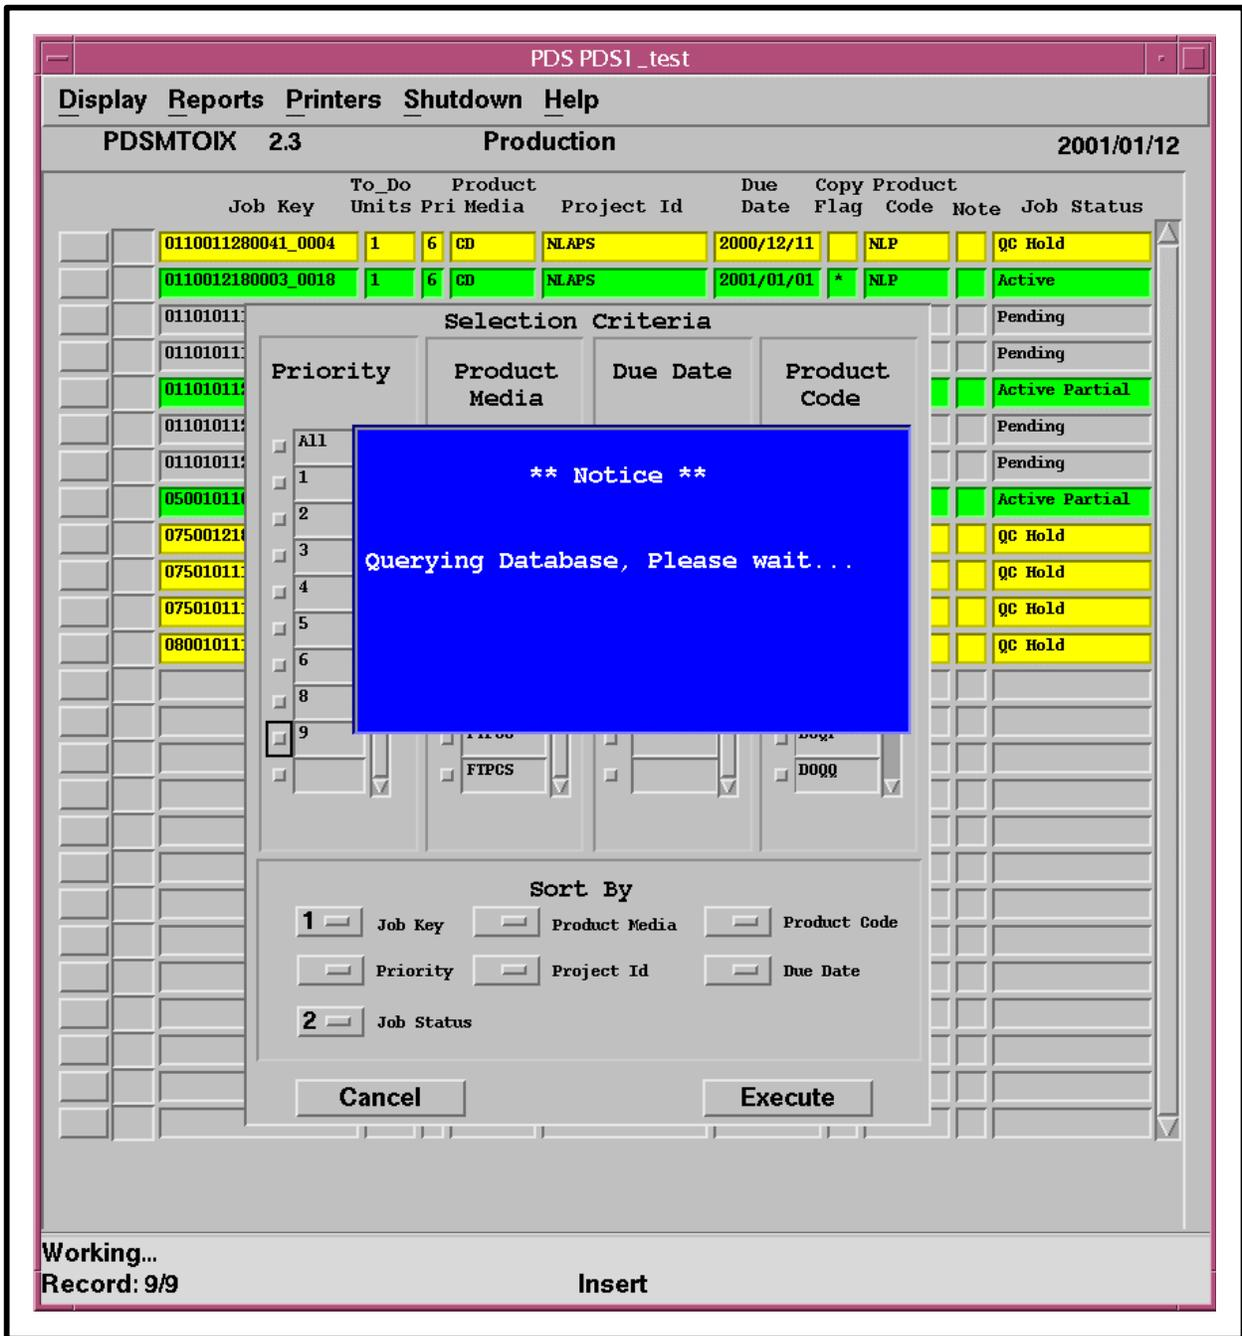

Figure 25. Querying Database Notice
- A **Querying Database** notice (Figure 25) is displayed temporarily in a blue box.